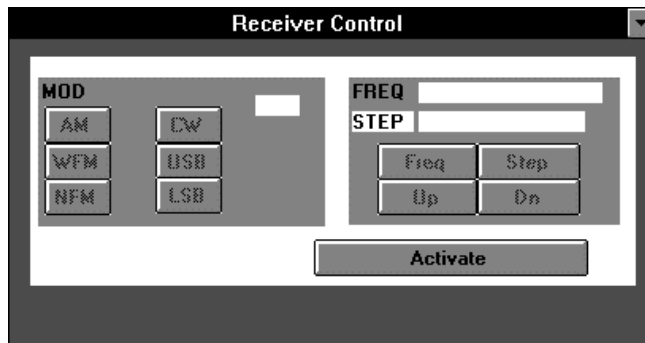

Figure 5-24: Receiver Control Dialog Box
1. Open the **Receiver Control** dialog box (Figure 5-24) by clicking on **Control** on the **Main Menu** bar and then selecting **Receiver** from the **Control** dropdown menu.